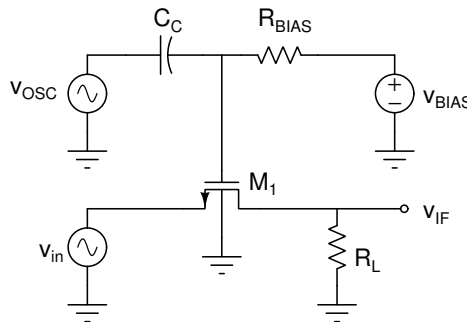

Figure 2
As shown in Fig. 2, a simple MOSFET can be used as a switch (mixer), where the oscillator signal is applied to the gate of the device, input is applied at the source and the intermediate frequency output is taken at the drain end.
- As shown in Fig. 2, implement the mixer using an NMOS in LTSpice. Clearly mention the values of R_{BIAS} , C_C . Consider $R_L = 1\text{ k}\Omega$, amplitude of v_{in} is 100 mV and frequency is f_{IN} . Show transient plots of v_{in} , v_{IF} for $f_{IN} = \{95, 98\text{ kHz}, 99\text{ kHz}, 101\text{ kHz}, 102, 105\text{ kHz}\}$. Also show corresponding FFT plots for v_{IF} .